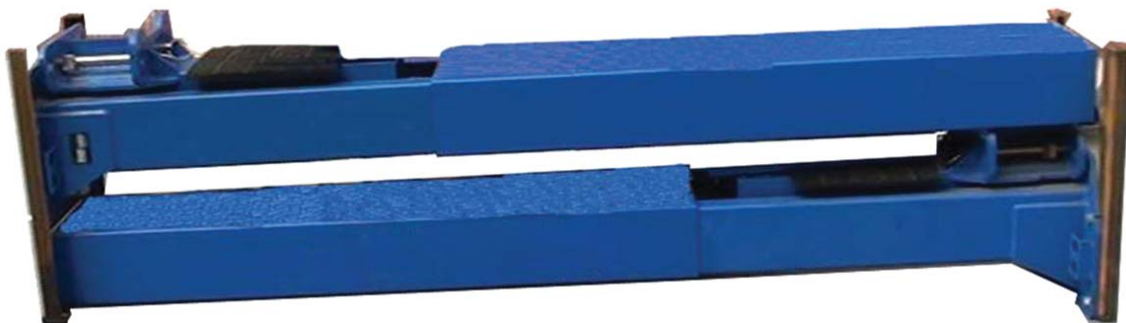

Fig. 8
3. Remove the top connection assembly. (See Fig. 8).